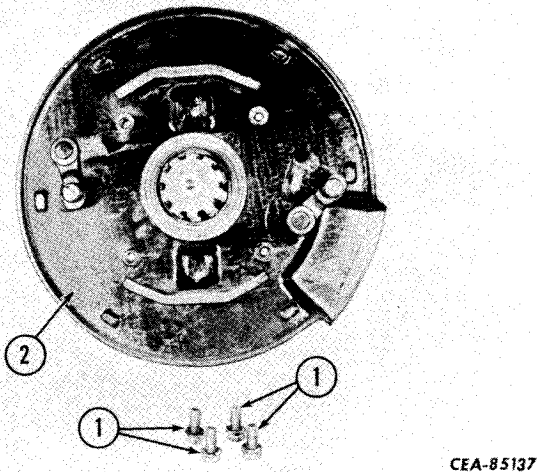

Figure 13-105
Remove the cap screws and lock washers (1, Fig. 13-105) that secure the backing plate (2) to the transfer drive housing.